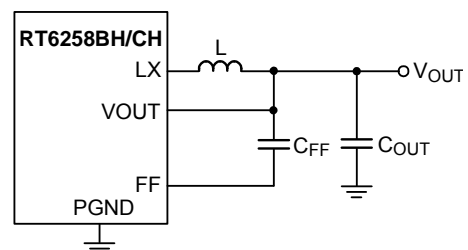
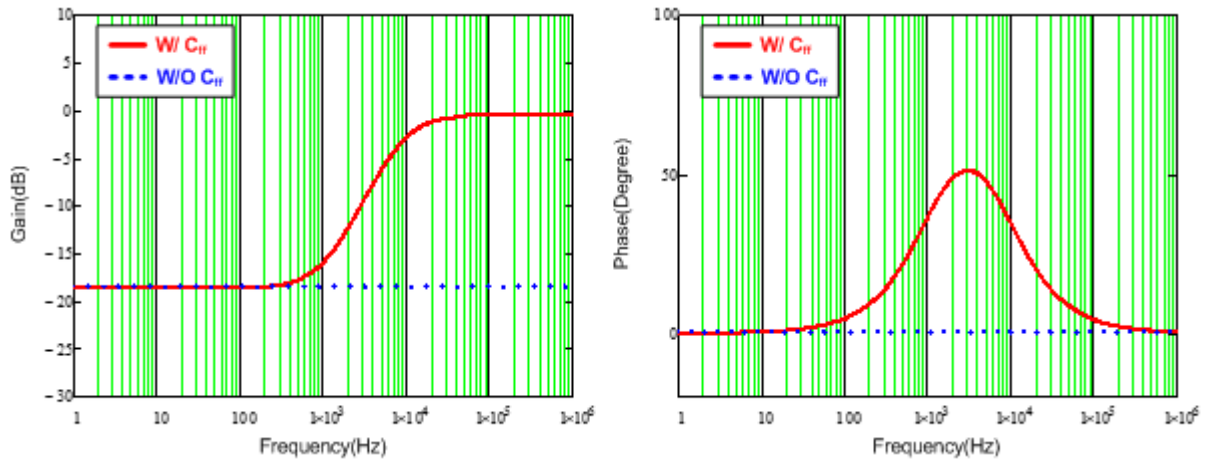

Figure 4. Feedback Loop with Feedforward Capacitor
Figure 5. Bode Plot with Different Feedback Loop Conditions
For saving time to design compensator and reducing the layout area through external components, the components of compensator are integrated in IC. However, this integrated compensator might not suit to every load transient spec. Hence, for the RT6258BH/CH to be more adaptable, the feedforward capacitor C_{FF} is used in the feedback loop to improve transient response, as shown in Figure 4. Figure 5 shows the comparison result of bode plot with different feedback loop conditions. Referring to Figure 5, through connecting a C_{FF} in feedback network, the gain and phase are raised in mid-frequency that not only can extend the bandwidth, but boost the phase margin as well. Moreover, there is also a high frequency pole to eliminate high frequency noise. Consequently, those features of feedforward feedback network allow the RT6258BH/CH have faster response to handle different load transient.
Observing Figure 5, the maximum phase boost occurs between zero and pole frequencies that is defined as maximum phase boost frequency, as expressed in equation (4). Hence, in order to achieve the maximum phase boost by adding C_{FF} in the RT6258BH/CH, the system's original bandwidth has to be located at maximum phase boost frequency.